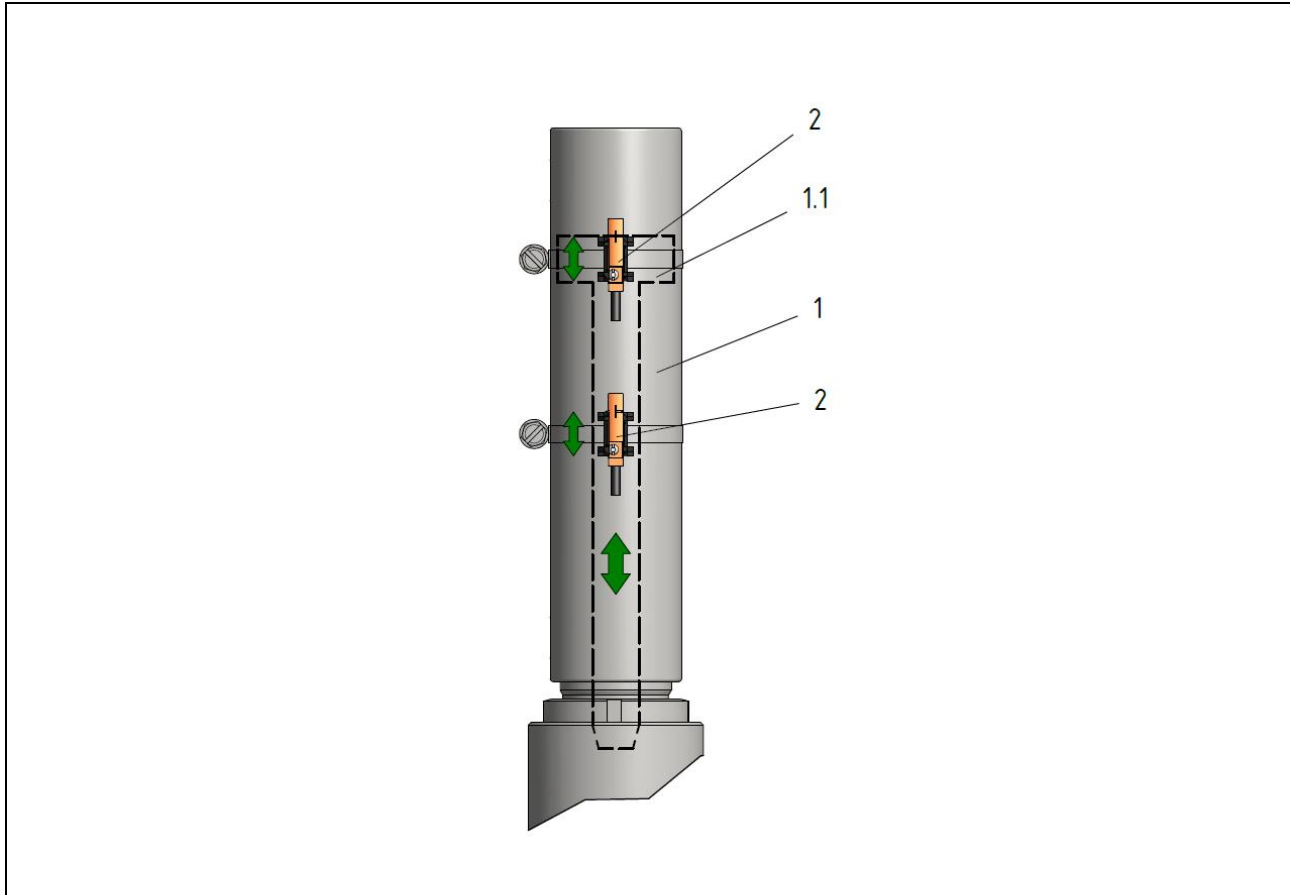

Fig. 5.1: Assembly Sensor positional security cylinder
The pig is secured in the plug-in chamber. This positional security is ensured by the support cylinder (pig stopper). Compressed air can be used to move the support cylinder (Fig. 5.1, Item 1) into two switching positions. Each of the two positions can be queried for automation.
- Retract the piston rod (Fig. 5.1, Item 1.1) of the pneumatic cylinder all the way in, up to the end position.
- Assemble the initiator (Fig. 5.1, Item 2) in such a way that a reliable response on the part of the piston rod is ensured.
- Extend the piston rod (Fig. 5.1, Item 1.1) of the pneumatic cylinder all the way out into the end position.
- Assemble the second initiator (Fig. 5.1, Item 2) in such a way that a reliable response on the part of the piston rod is ensured.